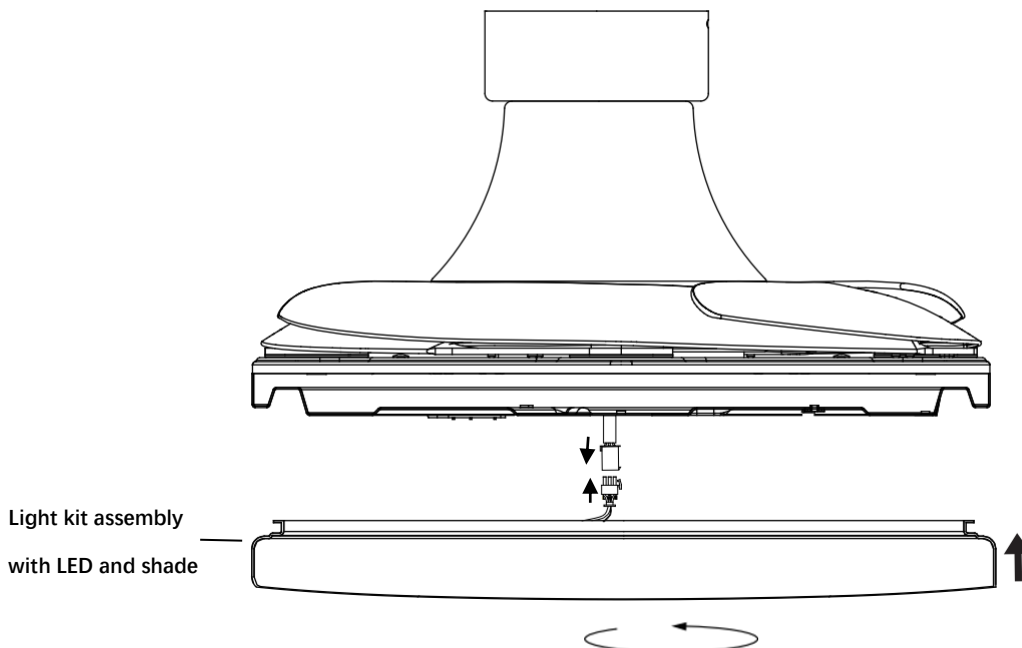

Fig. 7
4. Connect the quick connector to the light kit assembly with LED and shade . (Fig. 7)
5. Finally install the light kit assembly with LED and Shade to the laight kit plate by turning it clockwise (Fig. 7)